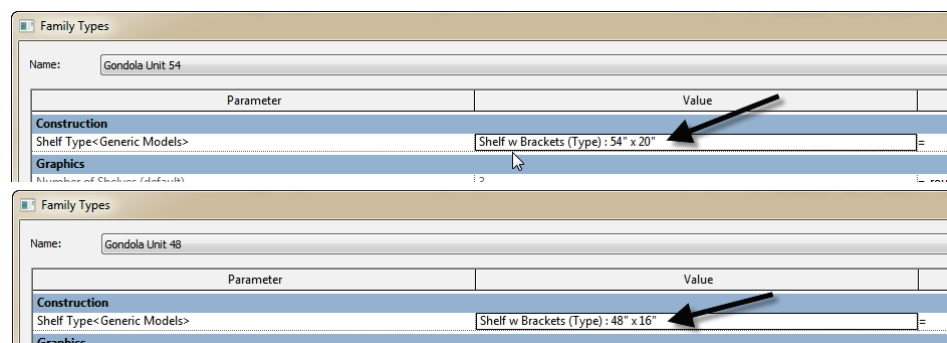

Figure 24—Assign values for the new <Family Types> parameter
9. Open the “Family Types” dialog and edit each existing type. For the ones that are named “48”, choose the **48"x16"** type for the new Shelf Type parameter. Choose the **54"x20"** type for the “54” types. Flex each one (see Figure 24).